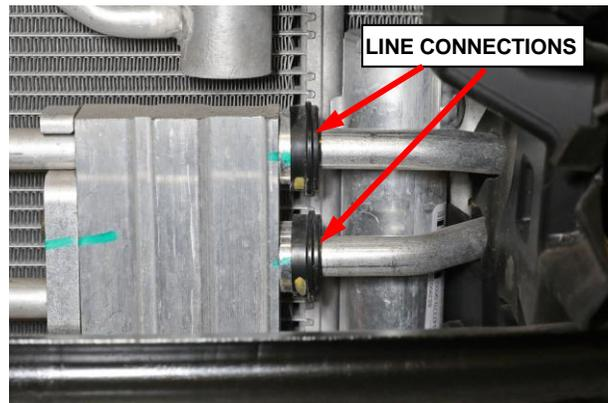

Figure 15 – Transmission Oil Cooler Connections
20. Disconnect the transmission cooler lines at the cooler (Figure 15).
27. Connect the transmission cooler lines to the cooler. Clean fluid from the vehicle. (Figure 15).